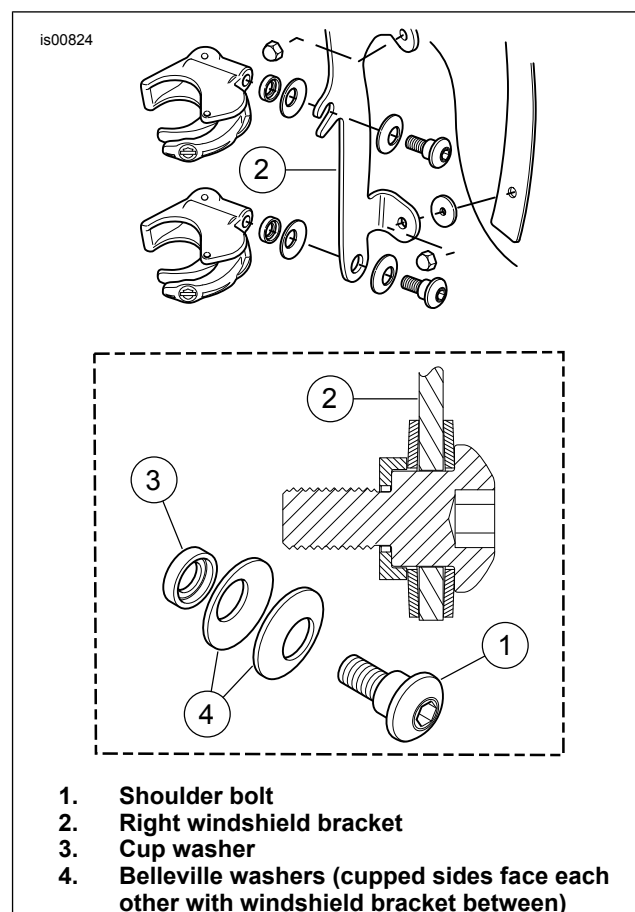

Figure 12. Windshield Mounting Clamp
3. See Figure 12. Assemble clamp assemblies and hardware stacks.